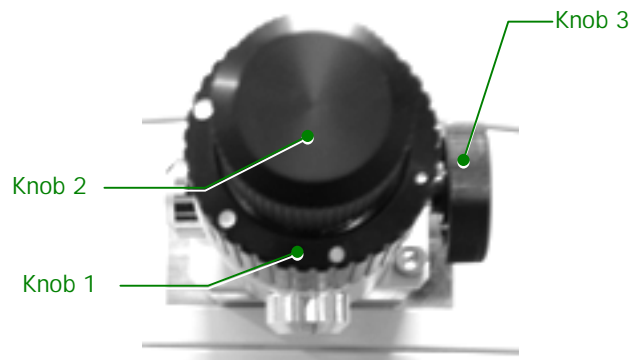

Fig. 4.1 Condenser lens aperture assembly
- Condenser aperture assembly (☞ Fig. 4.1)